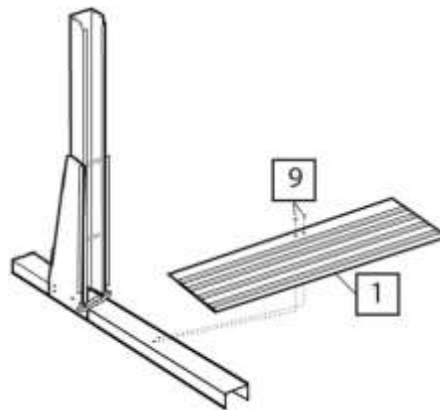
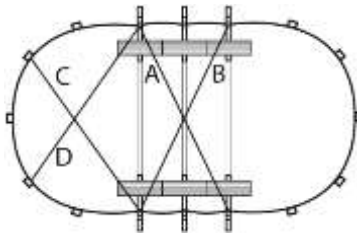
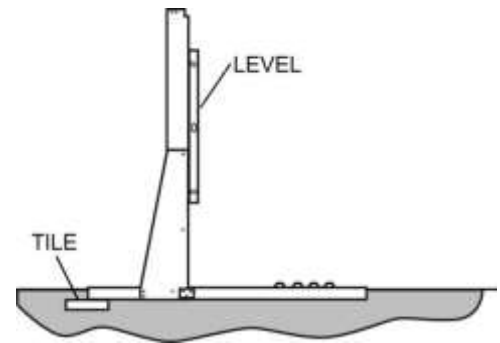

fig. 18
fig. 19
fig. 20
Locate one 122cm base plate (1) in each module. The assembly of these plates must be done with the grooved side facing upwards and the plain side facing downwards. These plates have two holes on one side, you have to make sure that these holes are located towards the central column, fig.18.
With spray paint, flour or lime, we have to draw the outline of one of the modules on the ground. Once we have drawn it, we move the module to one side and remove the soil underneath with the help of a shovel (video: <https://www.youtube.com/watch?v=508QF1PduIk>). The depth of the hole must be around 5 cm., fig. 18, and must be completely leveled. Once the hole is finished and leveled, we put the module inside it and make sure that it is correctly leveled by putting a level on top of the module, fig. 19.
We will then situate a floor tile under each module, on the back side of the module fig.20. To do this, we incline the module and we remove soil until the tile is leveled. Once the tile is installed, we check again that the module is leveled, and we measure again fig. 19.